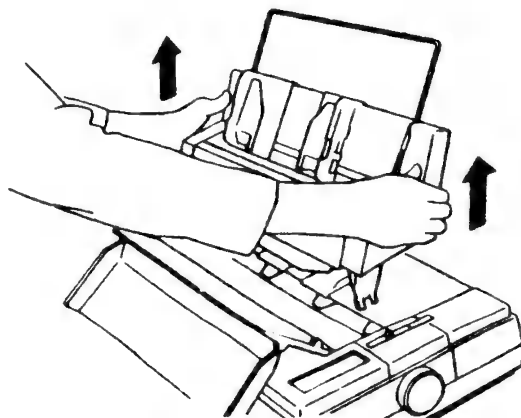

Figure C-11 Removing the Cut Sheet Paper Feeder
2. Pull the Cut Sheet Paper Feeder upward and lift it off the printer, as shown in Figure C-11.